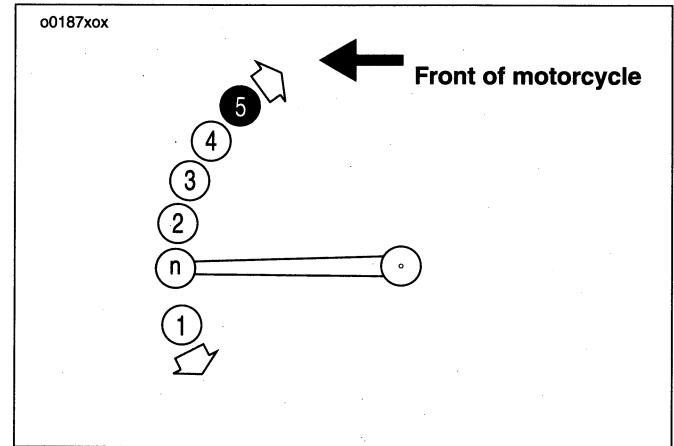

Figure 19. Foot Shift Lever
- See Figure 19. Pushing *Foot Shift Lever* all the way down (full stroke) shifts the transmission to the next lower gear.